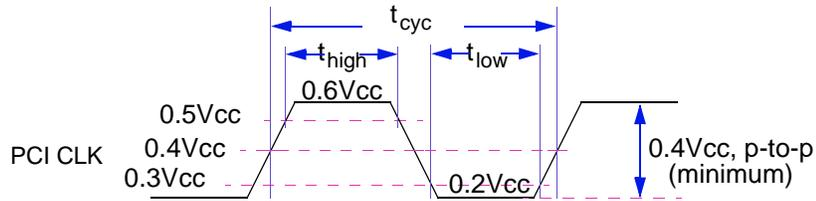

Figure 9. PCI CLK Waveform
The MPC5200B is always the source of the PCI CLK. The clock waveform must be delivered to each 33-MHz or 66-MHz PCI component in the system. Figure 9 shows the clock waveform and required measurement points for 3.3 V signaling environments. Table 22 summarizes the clock specifications.
- Rise and fall times are specified in terms of the edge rate measured in V/ns. This slew rate must be met across the minimum peak-to-peak portion of the clock waveform as shown in Figure 9.